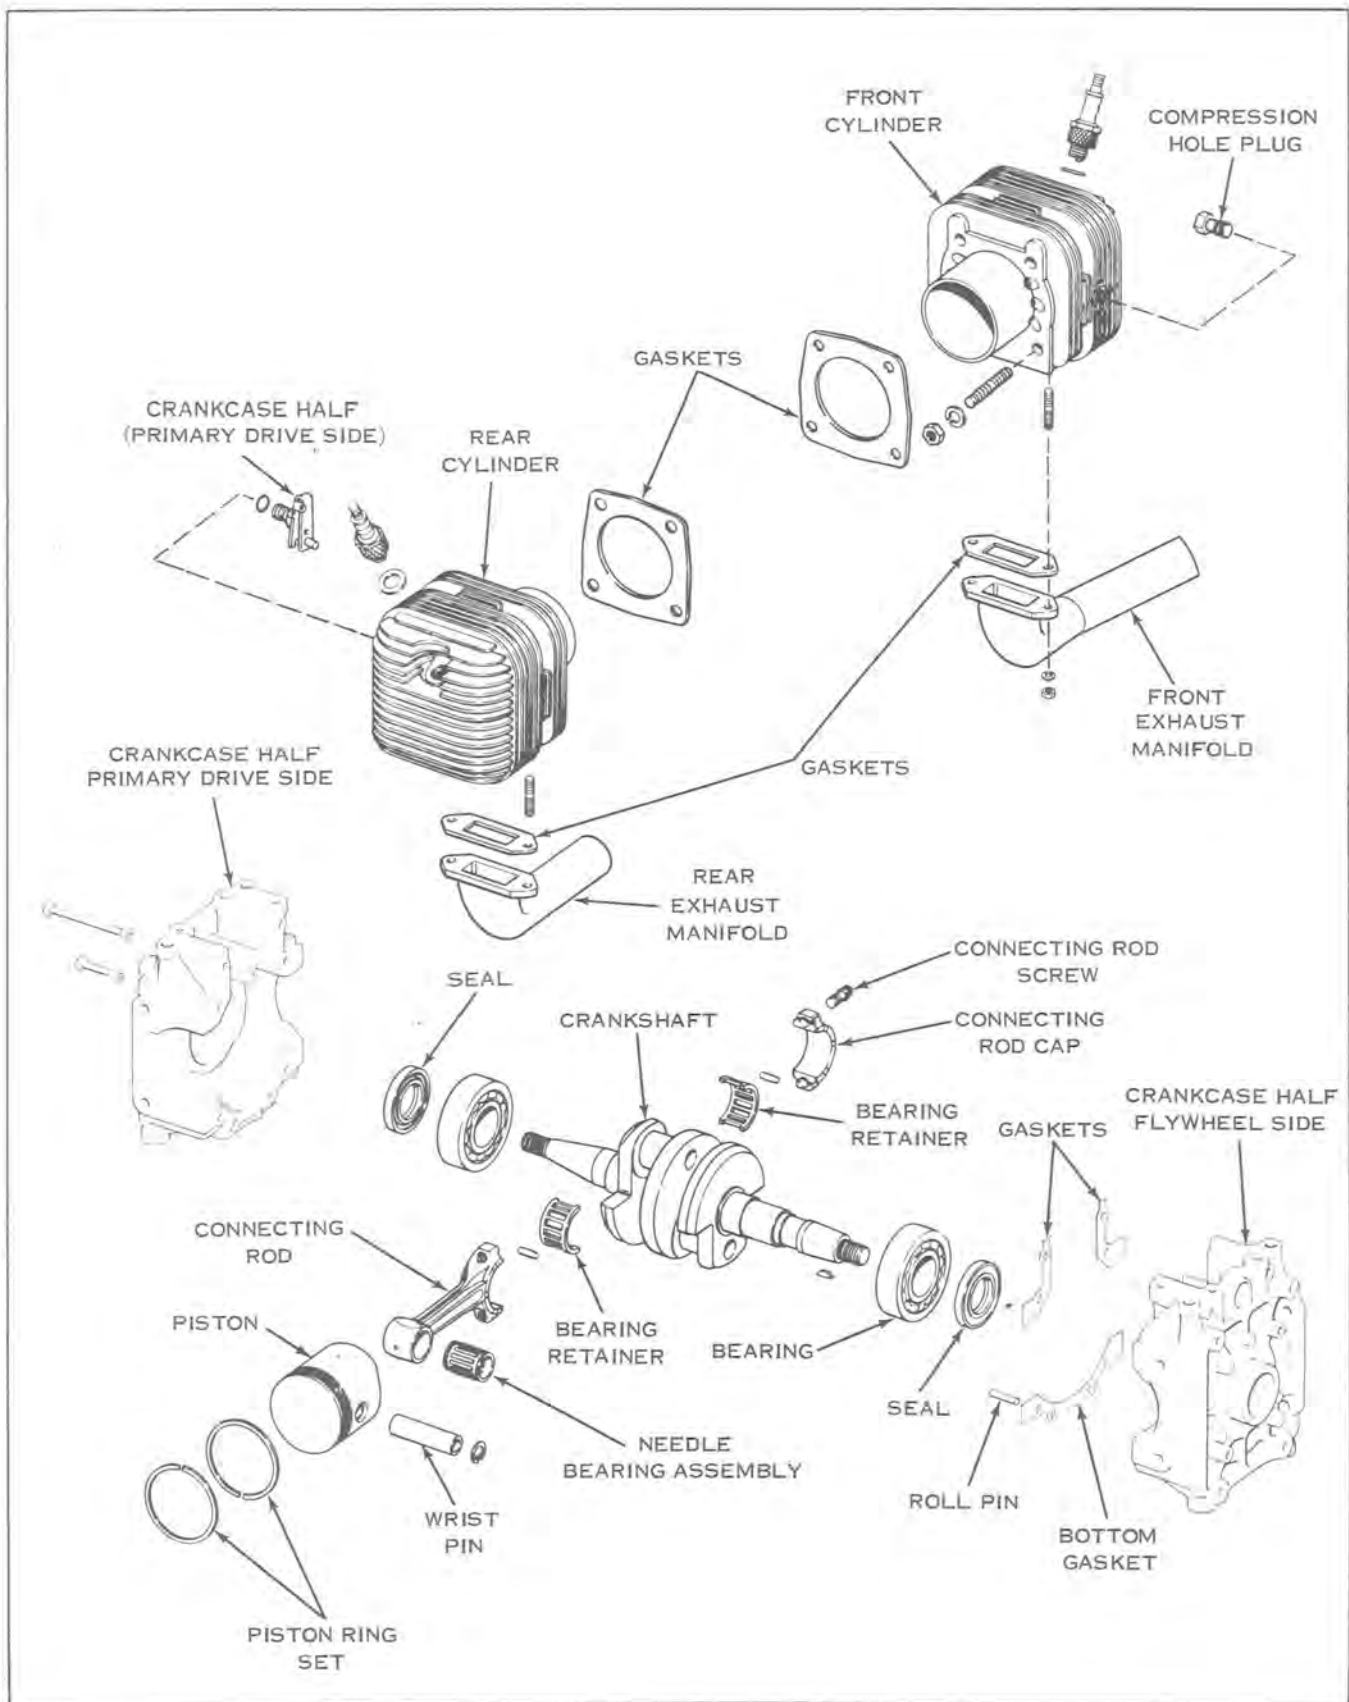

Figure 9-6
- b. Assemble exhaust manifolds to cylinder barrels if they were removed. The gasket surfaces on cylinders and manifolds must be clean and smooth. Place new exhaust manifold gaskets over cylinder studs and assemble exhaust manifolds. See Figure 9-6.